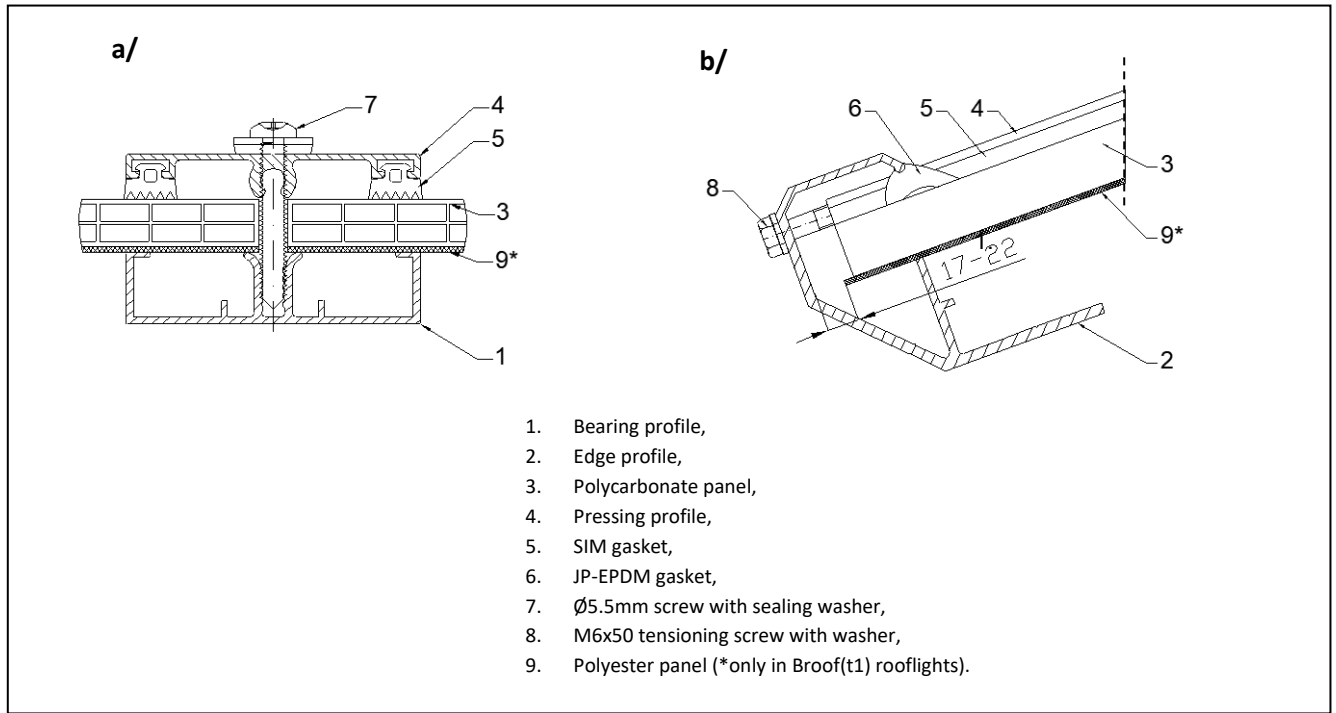

Figure 46 Connection method of: a) pressing profiles with bearing profiles; b) edge profiles with pressing profiles
15. Fix each pressing profile at both ends to the edge profile using M6x50 mm screws with washers, and next tension the screw (Figure 46/b).
21. Under deeper pressing profiles lay polycarbonate strips. Each pressing profile perpendicular to the edge profiles should be fixed to the edge profile using M6x50 mm screws with washers and initially tensioned (Figure 46).
A cross-section of a correctly inserted gasket is shown in Figure 46.